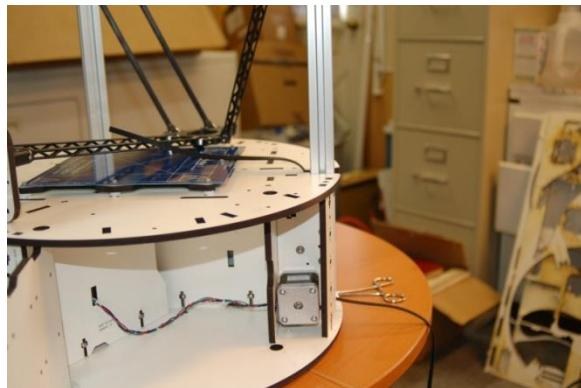

Figure 79 - Initial Belt Routing
18.3 - Figure 79 above will show you what it should look like from the outside when you’re done with this step. Note that the belt teeth must be facing "in" towards the rail. Make sure while pulling the belt that it doesn’t engage the drive pulley that’s installed on the stepper motor – you don’t want to spin the motor by hand.